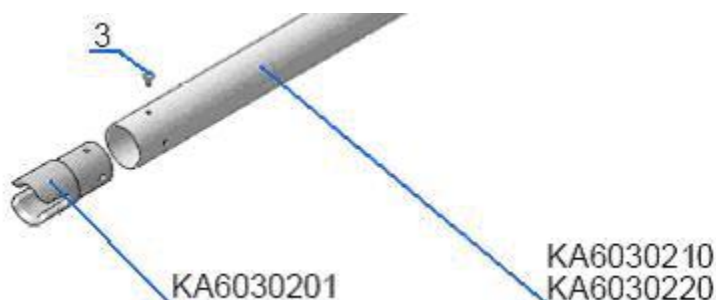

Fig. 8
- 8) Inspect connection of the tip KA6030201 and the flap rod (KA6030210 and KA6030220, Transverse rod tube) for play. In case of play replace the rivets (3) (C9996653 Stainl. steel rivet A2 4x11.5) to next bigger ones (Fig. 8). Eventually diameter of the rivets should not exceed $\frac{5}{256}$ " / 0.5 mm. If it would, replace the tubes (KA6030210 and KA6030220, Transverse rod tube) and the tip KA6030201.